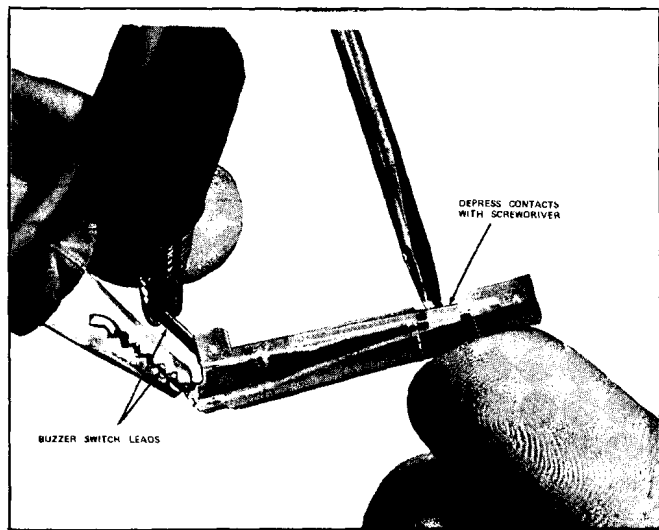

Fig. 12-5 Continuity of Buzzer Switch
3. Buzzer Switch Check - Remove the buzzer switch and visually inspect it for physical damage. Should the switch be damaged, replace it. If it appears satisfactory, fasten the alligator clips from the continuity meter to the buzzer switch leads (one clip per one lead). Be careful not to bend the leads. Depress the actuator pad until the interior points contact (Fig. 12-5).